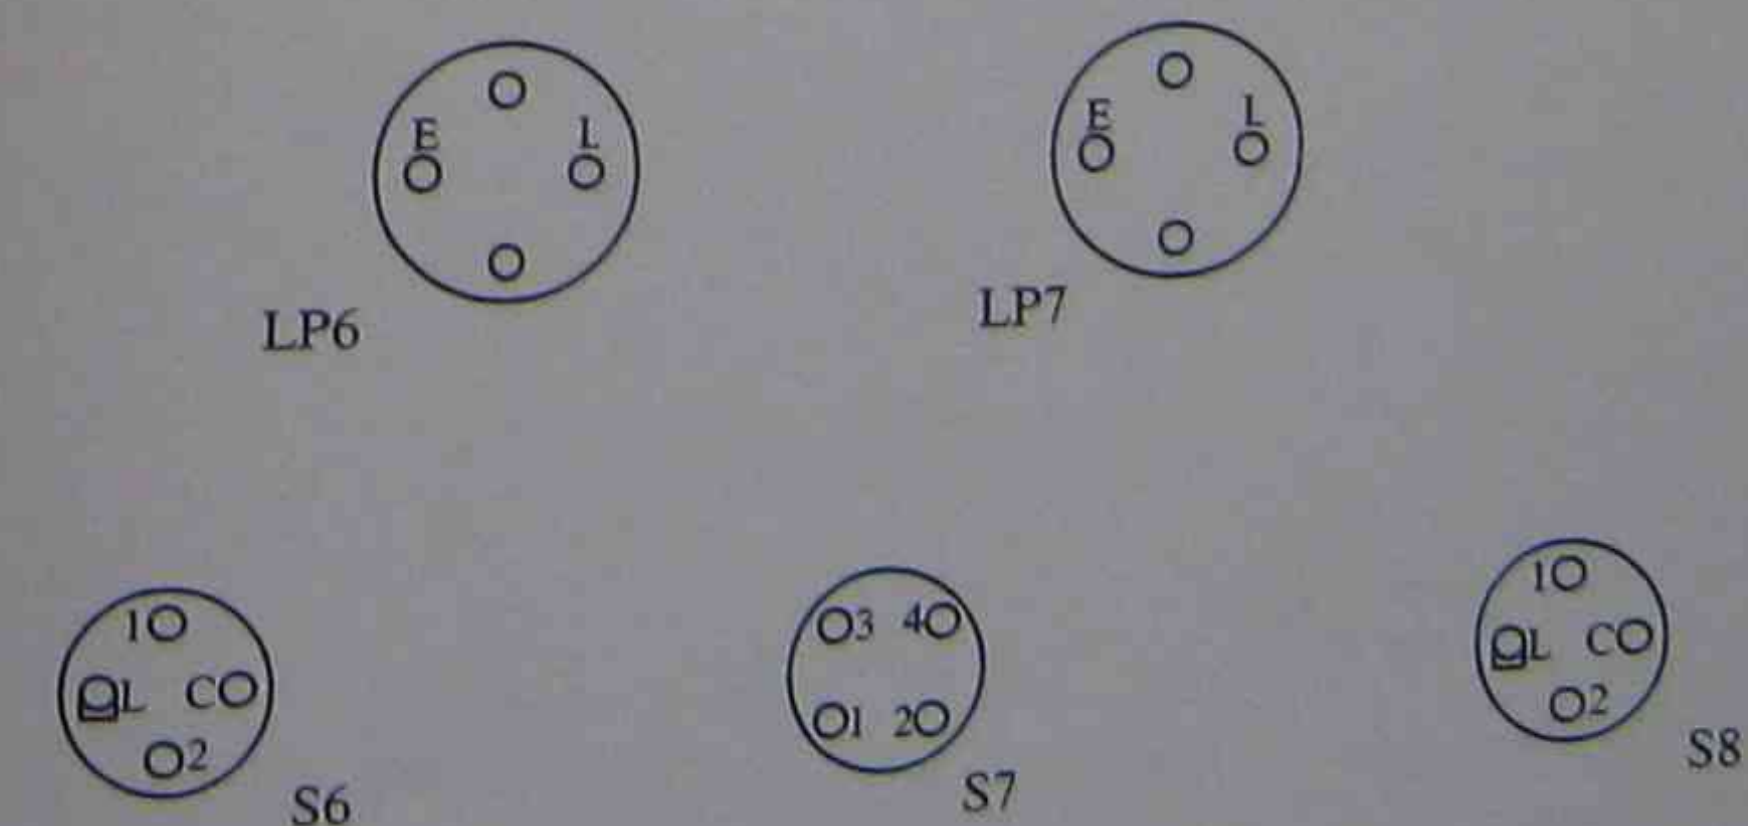

Figure 18 Wiring diagram for lighting points 6 and 7 and switches 6, 7 and 8
7. Complete the wiring diagram of Figure 18 by drawing the connections required at lighting points 6 and 7 and switches 6, 7 and 8. Also show the incoming and outgoing conductors. The intermediate mechanism should be a HPM type.